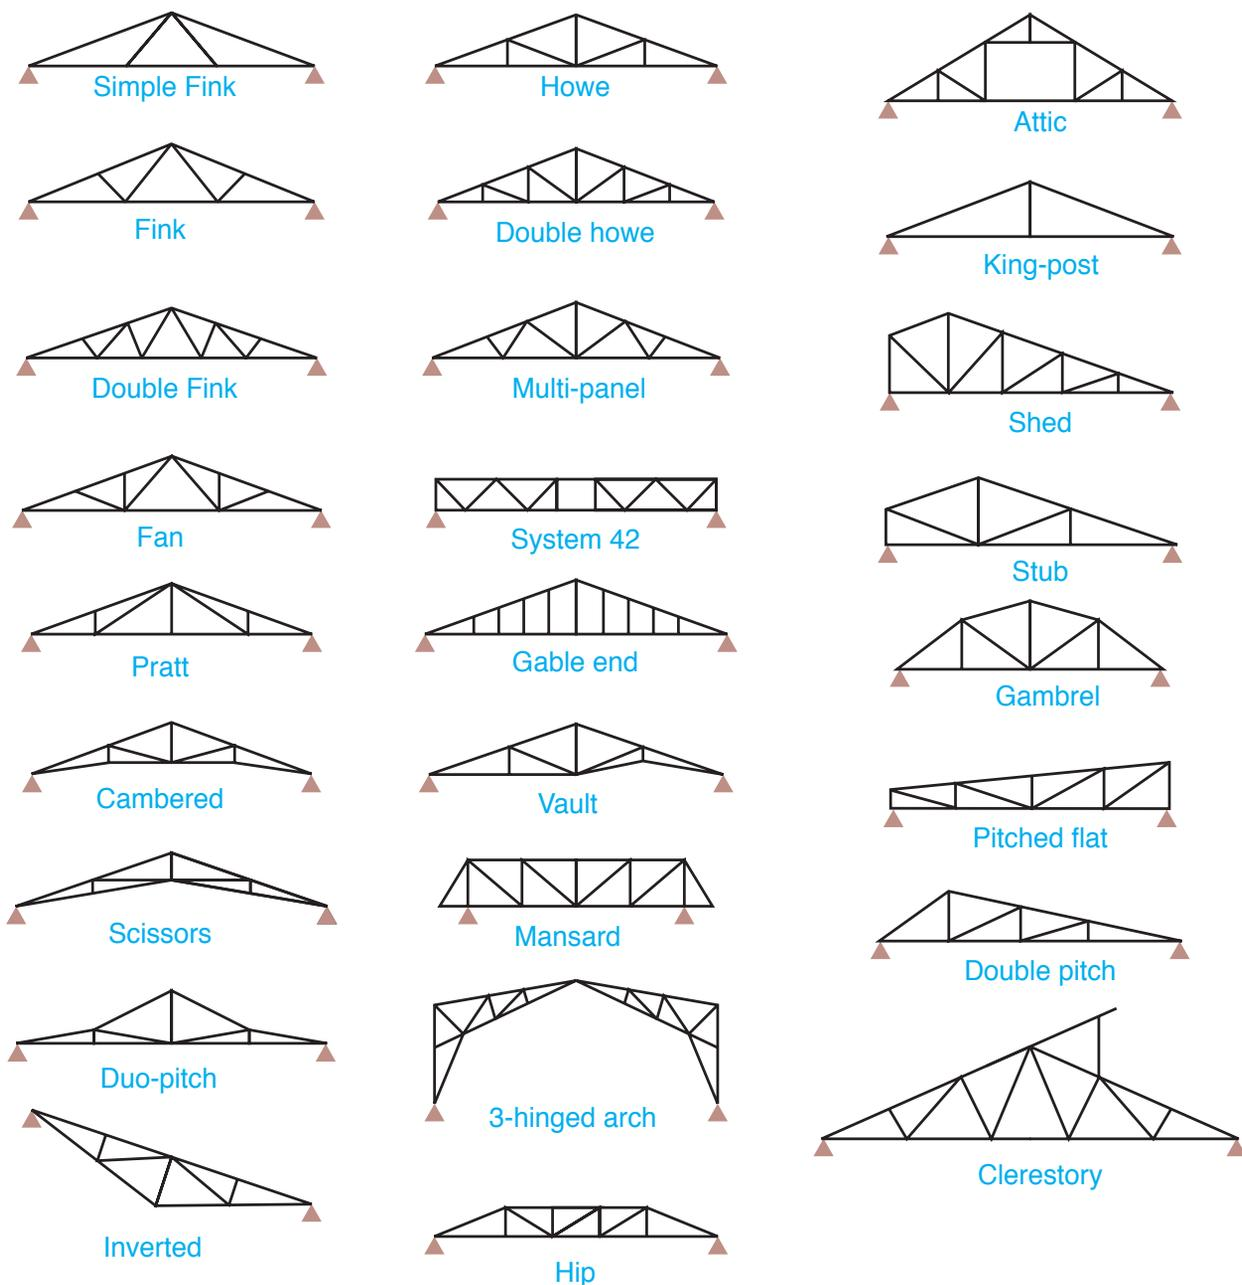

Figure 17-46 Types of Trusses
- **Type of truss** See Figure 17-46 for different types of trusses.